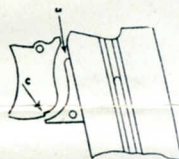
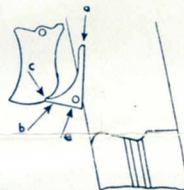

FIGURE 4
FIGURE 5
2.—The pistol also has a magazine safety, which guarantees additional safety of the arm when a live round is in the chamber, thus permitting firing of the cartridge only when the magazine is replaced. In effect, (Figure 4), the magazine, when in place, maintains the piece «a» in such a position that no part of it obstructs the trigger. However, when the magazine is removed (Figure 5), the piece «a», through the action of its self-contained spring, engages a notch in the trigger, thus preventing any movement of the trigger and discharge of the gun. Because of the contact between the sear and the hammer, the pistol, when loaded and with the hammer cocked, cannot be discharged involuntarily. The pistol in this way is secure and safe and even if the hammer accidentally releases while cocking there is little risk that the pistol will fire. To fire the pistol it is necessary that the trigger actually be pulled, requiring voluntary action to do so. In effect, when the hammer is cocked (Figure 6), it is drawn back on its axis from position I to position II, at the same time, the sear, mov-